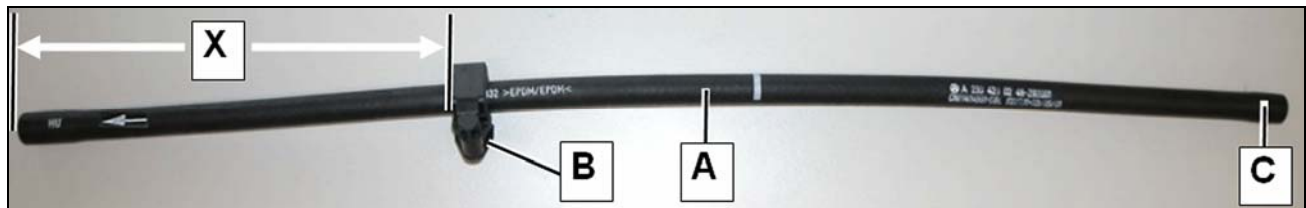
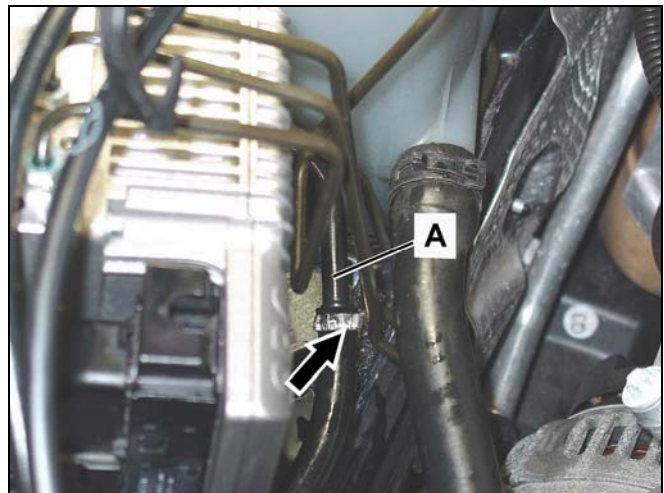

Figure 9 Dimension X = 20 cm
Figure 10
- Verify that the dimension X (Figure 9) on the **new** SBC suction hose (A) equals 20 cm. Adjust (if necessary) by repositioning the mounting clip (B) on the SBC suction hose (A).
- Place new hose clamp onto unmarked side of suction hose (C, Figure 9).
- Connect the unmarked end of the suction hose (C, Figure 9) onto the suction line (A, Figure 10) and secure hose with a **new** hose clamp (arrow, Figure 10).